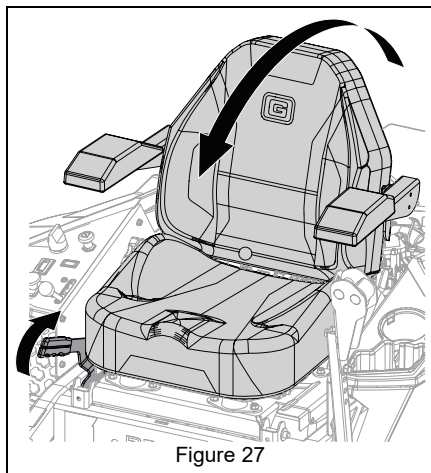

Figure 27
8. *Models 991281, 991283, 991285, 991287, 991289, 991291:* Pull seat latch and rotate seat forward. See Figure 27.